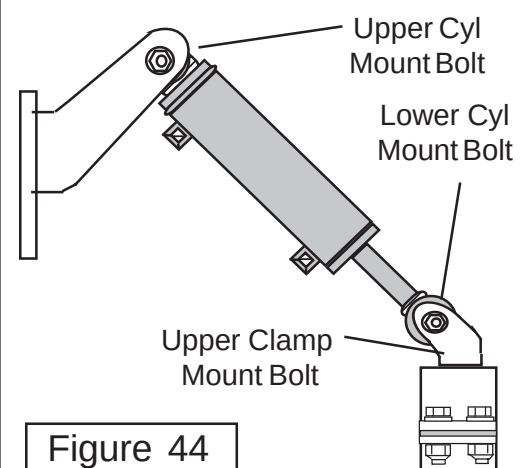

Figure 44
2. When installed correctly the three components should be aligned as show (See Figure 44). The upper and lower bracket should have the same gap between them in front as in the back to make certain brackets are even. Check the hose connections and all mounting bolts for the axle stabilizer kit.